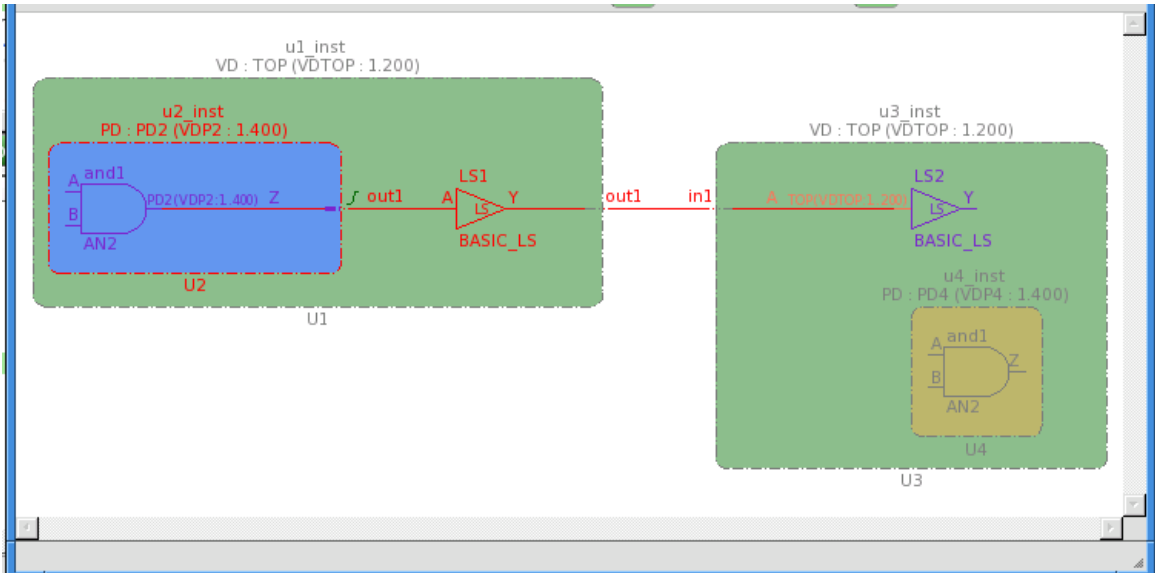

FIGURE 226. Selected Instance in Incremental Schematic
- The instances selected in the PID browser window are displayed in Incremental Schematic as shown in *Figure 226*: